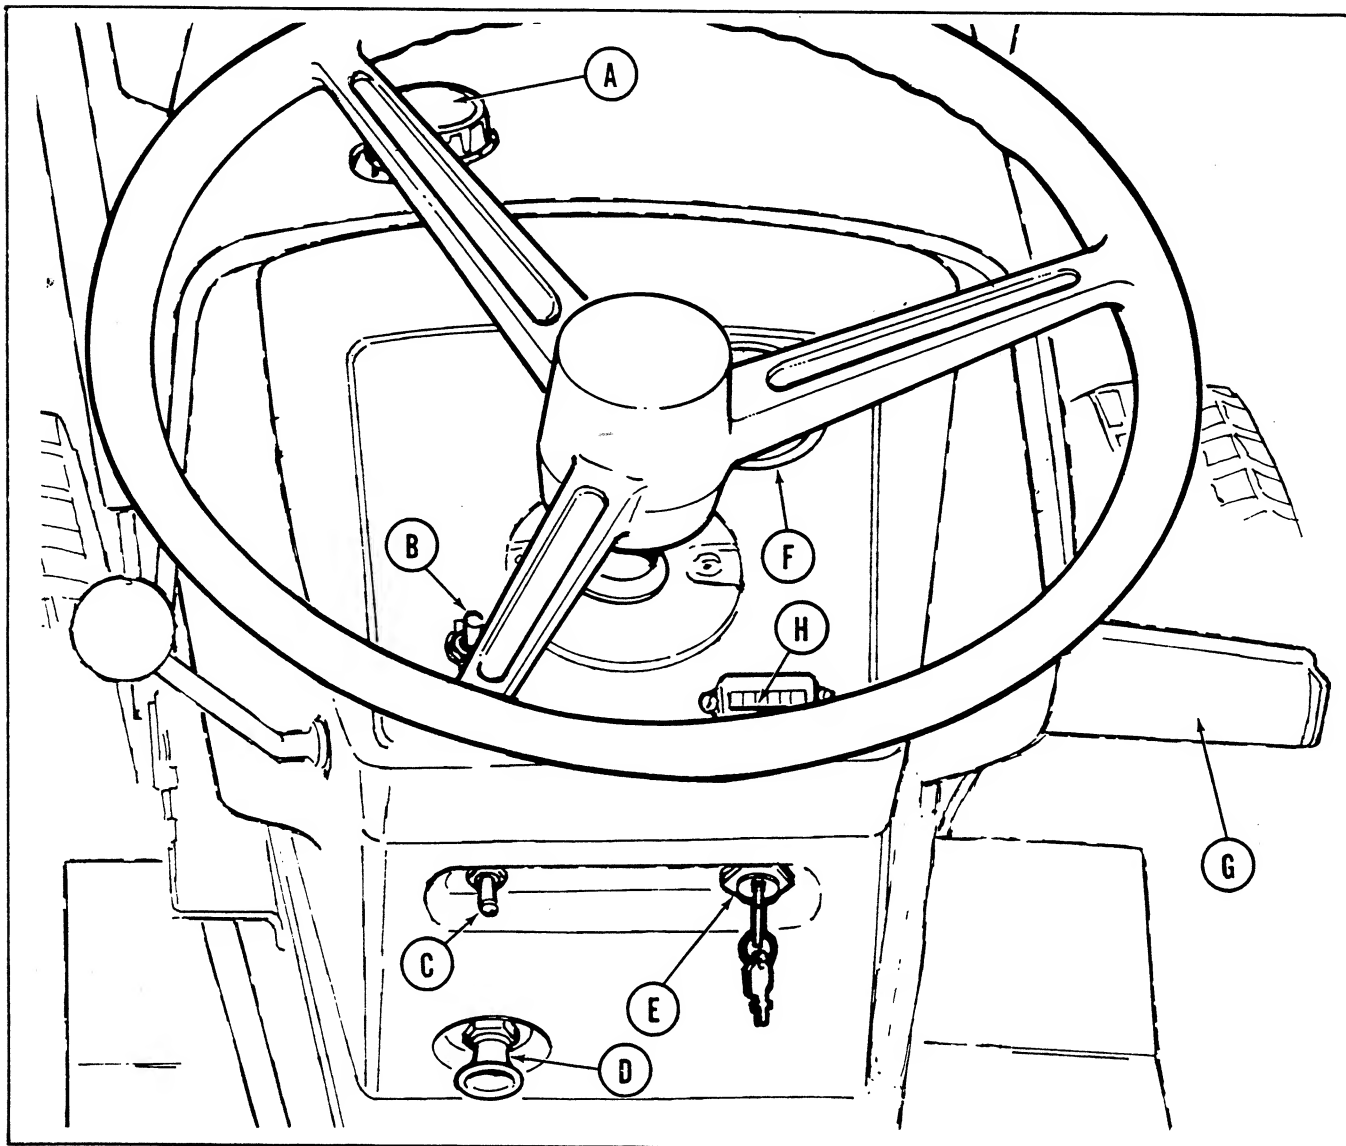

Figure 1. Tractor instrument panel as seen from the operators position on tractor seat.
Picture yourself seated on your tractor. Before starting the engine, let's learn how to understand and use the instruments and controls. The paragraphs referring to the instruments and controls are illustrated on figures 1 through 4.
IGNITION SWITCH: (Figure 1, item E) To actuate the ignition switch first insert the ignition key as shown. When the key is turned clockwise to the first position, the ignition is ON. In the ON position the lights, hourmeter, etc. will operate. Turn the key clockwise past the ON position to the START position to actuate the starter. **THE TRANSMISSION SHIFT LEVER MUST BE IN THE NEUTRAL POSITION AND THE POWER TAKE OFF CLUTCH CONTROL LEVER (S) MUST BE IN THE DISENGAGED POSITION BEFORE THE STARTER WILL ACTUATE.** Release the
CHOKE CONTROL KNOB: (Figure 1, item D) The choke control knob may be pulled out to increase the amount of fuel entering the engine for starting and cold weather warmup. When starting a cold engine in cold weather pull the choke all the way out. Some choke may be required to start the engine when the air temperature is above 70 degrees F. or while the engine is still warm from being recently run. After the engine has started, push the choke in slowly. In cold weather it may be necessary to leave the choke pulled out slightly for three or four minutes while the engine warms up. **NEVER OPERATE THE ENGINE WITH THE CHOKE OUT AFTER IT HAS HAD SUFFICIENT**
AMMETER: (Figure 1, item F) The dial pointer will move right to the "Charging" position when energy is being added to the battery and left to the "Discharge" position when energy is being drawn from the battery. The pointer will normally fluctuate to either side of the dial center.
HOURLMETER: (OPTIONAL) (Figure 1, item H) The hourmeter is designed to record the number of hours the engine runs. However, since it is electrically operated, it will run any time the ignition switch is in the ON position even though the engine may not be running. The hourmeter is useful in keeping accurate maintenance records, and also a convenient way of telling how much time the tractor has been used on a particular job.
FUEL GAUGE AND FILLER CAP: (Figure 1, item A) The fuel gauge indicates the amount of fuel in the tank. Before adding fuel, shut off the engine and allow it to cool. To remove the fuel gauge and filler cap for adding gasoline, turn the fuel filler gauge-cap counter-clockwise. The fuel tank holds approximately 3 gallons - enough for about 3 hours of mowing. Use leaded or non-leaded "regular" grade automotive gasoline. **CAUTION: DO NOT ALLOW LIGHTED CIGARETTES, MATCHES, ETC., AROUND ANY OPEN GASOLINE CONTAINER. DO NOT OVERFILL; WIPE UP ANY SPILLED GASOLINE.**
LIGHT SWITCH: OPTIONAL ON 10 H.P. (Figure 1, item C). The switch should be moved up to the ON position to turn on the tractor lights. To prevent the lights from being turned on by unauthorized persons, the ignition switch must also be in the ON position for the lights to operate. To turn the light off, push the light switch down to the OFF position. **DO NOT OPERATE THE LIGHTS FOR LONG PERIODS OF TIME (MORE THAN 20 MINUTES) WHEN THE AMMETER READS DISCHARGE OR THE BATTERY MAY DISCHARGE ENOUGH SO IT WILL NOT START THE ENGINE.**
POWER LIFT SWITCH: (OPTIONAL) (Figure 1, item B) The power lift switch controls the electrically operated power lift unit. Push the toggle switch forward when you wish to raise a front center or rear mounted attachment. Pull it back toward you to lower the attachments. The power lift will stop and hold in any position when you release the toggle switch. The height indicator (Figure 6, item A) on the left side of the tractor can be used to determine what position the lift is in. The lift motor will ratchet when it has reached the end of its travel. Ratcheting is not harmful to the unit, but you should release the toggle switch as soon as ratcheting begins to prevent unnecessary wear. If the motor is allowed to ratchet for an extended period of time, a circuit breaker will open, disconnecting power to the lift motor. It will automatically reset after about a minute.
CLUTCH AND BRAKE PEDAL: (Figure 1, item G) Depressing the pedal will first disengage the tractor drive clutch. As you continue to depress the pedal, the brakes will be applied to stop the tractor.
The diagram printed on the tractor frame shows the location of each position. To shift the transmission into reverse or second, pull the shift lever back toward you, then push it all the way to the right or left into the desired position. To shift into first or third, push the shift lever forward and move it left or right all the way to the desired position. Do not attempt to move the shift lever unless the foot pedal (Figure 1, item G) is depressed and tractor motion is stopped. The shift lever must be in the neutral START position for the engine to start.